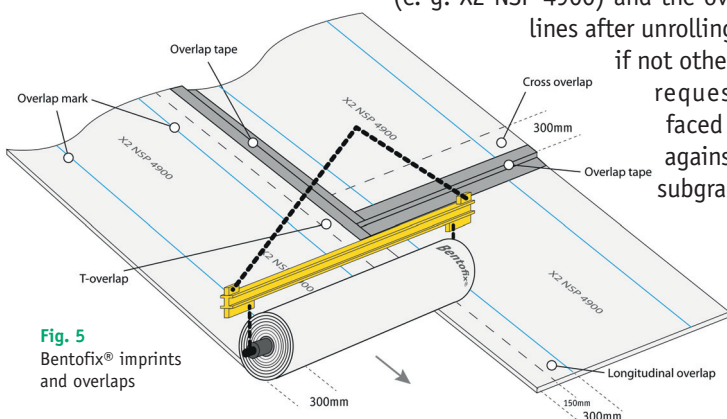

Fig. 5 Bentofix® imprints and overlaps
5.1 Each Bentofix® roll is imprinted either side approx. every 5m during manufacturing with its brand name (fig. 5).